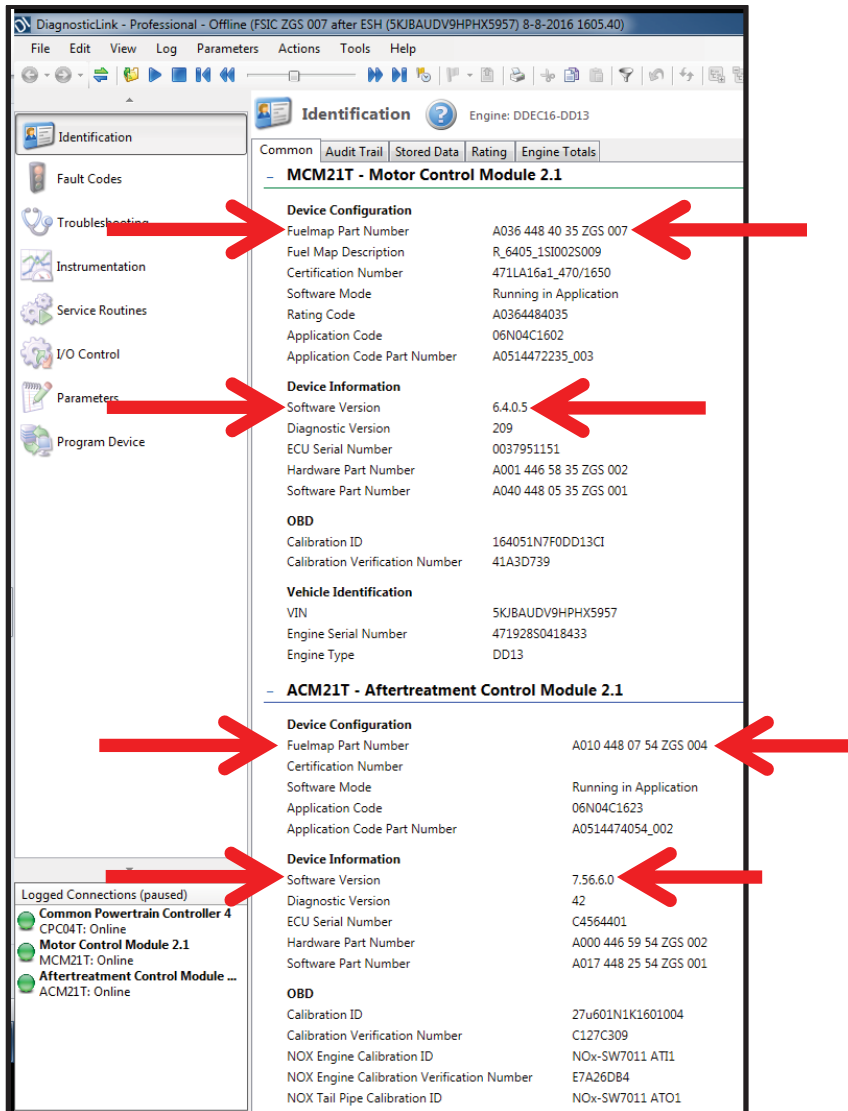

Figure 1 – DiagnosticLink® Identification Screen
5. On the Identification screen, check the current MCM, ACM, CPC, and if applicable the TCM, software and fuel map level. Listed below are the **MINIMUM** levels required. See Figure 1 for an example of the Identification screen for the MCM and ACM.